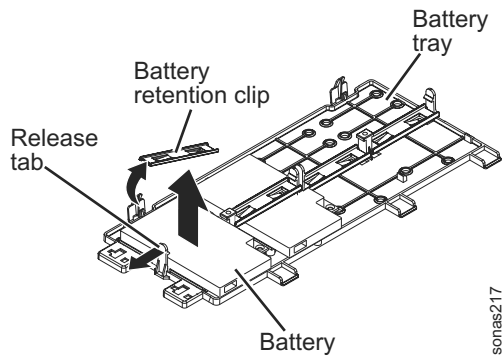

Figure 32. Releasing the battery retention clip
- a. Remove the battery retention clip from the tabs that secure the battery to the remote battery tray. See Figure 32.